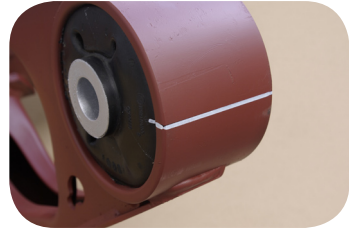

Fig. 5 · Marking the bushing orientation
- Using a white marker pen, draw a line (Fig. 5) on the outside of the trailing arm receptacle at the raised position locator of the pivot bushing. This line marks the orientation of the existing pivot bushing within the receptacle and will be used to properly orient the replacement bushing during installation.